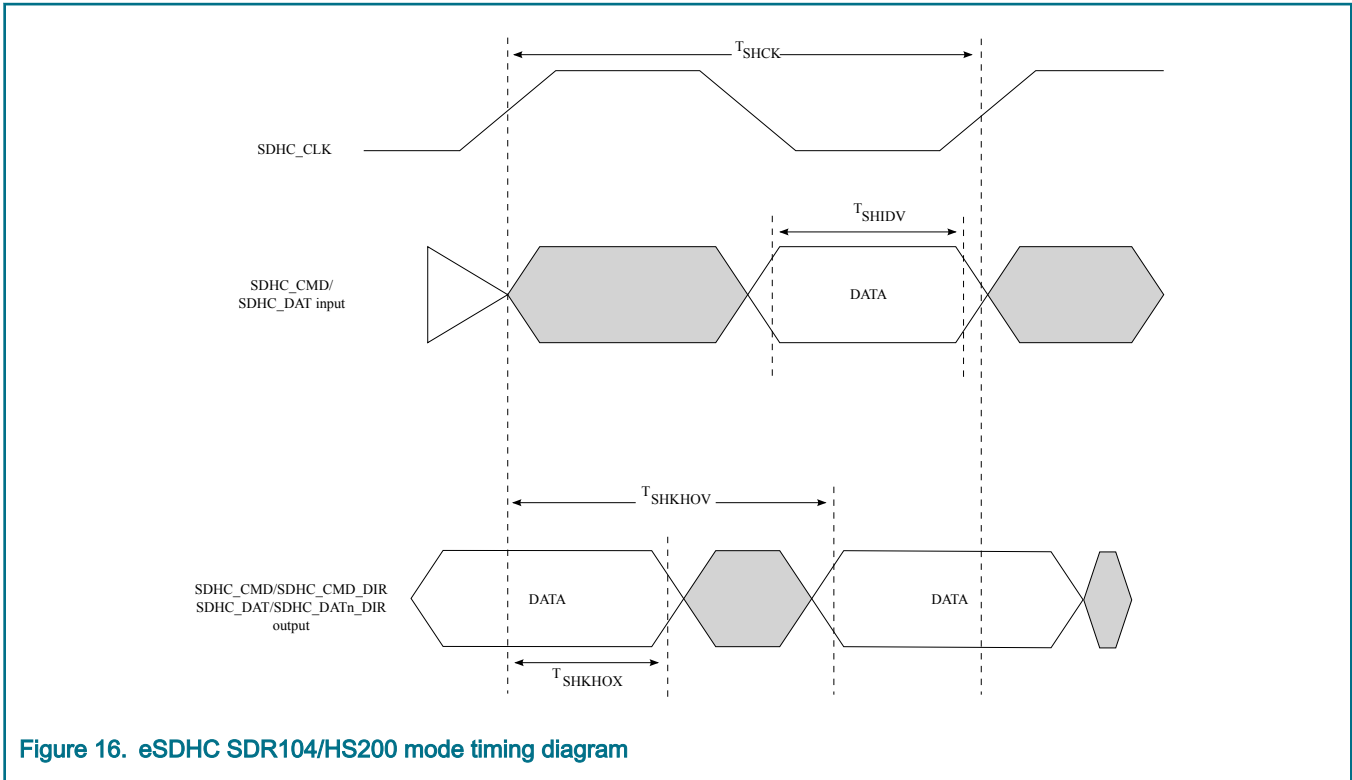
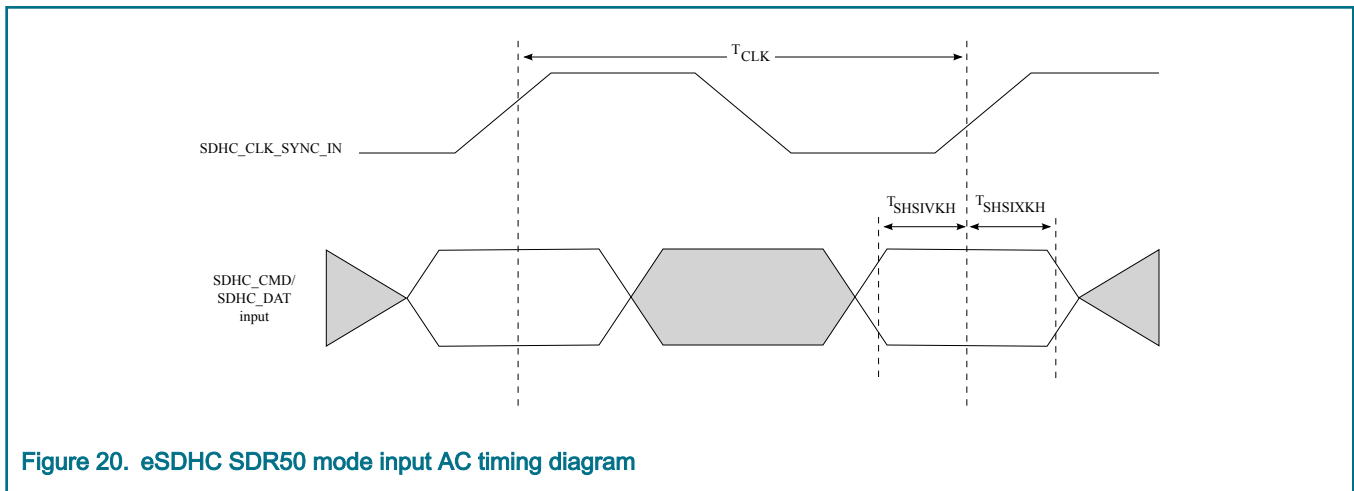

Figure 16. eSDHC SDR104/HS200 mode timing diagram
**Figure 18. eSDHC HS400 mode output timing diagram**
2. The symbols used for timing specifications herein follow the pattern of t(first two letters of functional block)(signal)(state) (reference)(state) for inputs and t(first two letters of functional block)(reference)(state)(signal)(state) for outputs. For example, tSHKHOX symbolizes eSDHC highspeed mode device timing (SH) clock reference (K) going to the high (H) state, with respect to the output (O) reaching the invalid state (X) or output hold time. Note that in general, the clock reference symbol is based on five letters representing the clock of a particular functional. For rise and fall times, the latter convention is used with the appropriate letter: R (rise) or F (fall).
3. See Figure 16.
<p>1. <math>C_L = C_{BUS} + C_{HOST} + C_{CARD} \leq 15pF</math>.</p> <p>2. The symbols used for timing specifications herein follow the pattern of <math>t_{(first\ two\ letters\ of\ functional\ block)(signal)(state)\ (reference)(state)}</math> for inputs and <math>t_{(first\ two\ letters\ of\ functional\ block)(reference)(state)(signal)(state)}</math> for outputs. For example, <math>t_{SHKH0X}</math> symbolizes eSDHC highspeed mode device timing (SH) clock reference (K) going to the high (H) state, with respect to the output (O) reaching the invalid state (X) or output hold time. Note that in general, the clock reference symbol is based on five letters representing the clock of a particular functional. For rise and fall times, the latter convention is used with the appropriate letter: R (rise) or F (fall).</p> <p>3. See <a href="#">Figure 17</a>.</p> <p>4. See <a href="#">Figure 18</a>.</p> <p>5. For HS400 without enhanced strobe (DQS) command, see <a href="#">Figure 16</a>.</p>